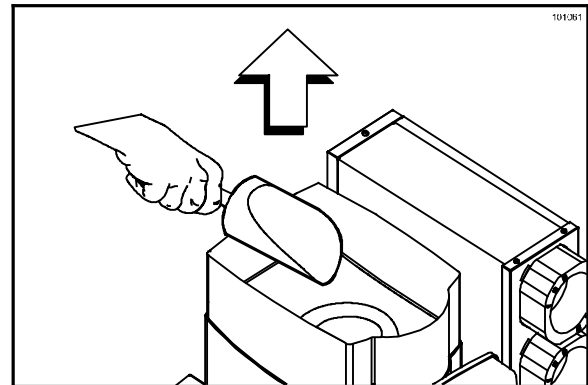

Figure 180
1. Remove the ice hopper cover. Scoop out as much ice as possible, using a clean, sanitized ice scoop. (See Figure 180.)